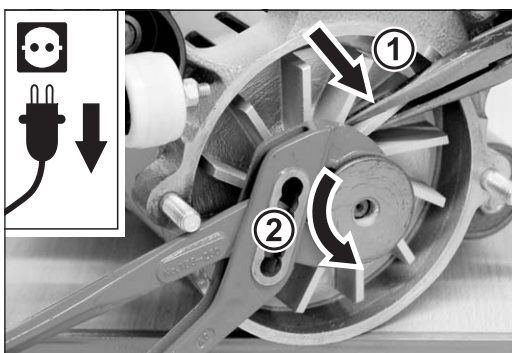

Fig. 46 Use two pairs of pliers to unscrew the motor pulley from the motor shaft.
- 4 Then use a pair of pliers to hold the fan wheel (fig. 46, 1) and use another pair of pliers to unscrew the motor pulley from the motor shaft **counterclockwise** (right-hand thread; fig. 46, 2).